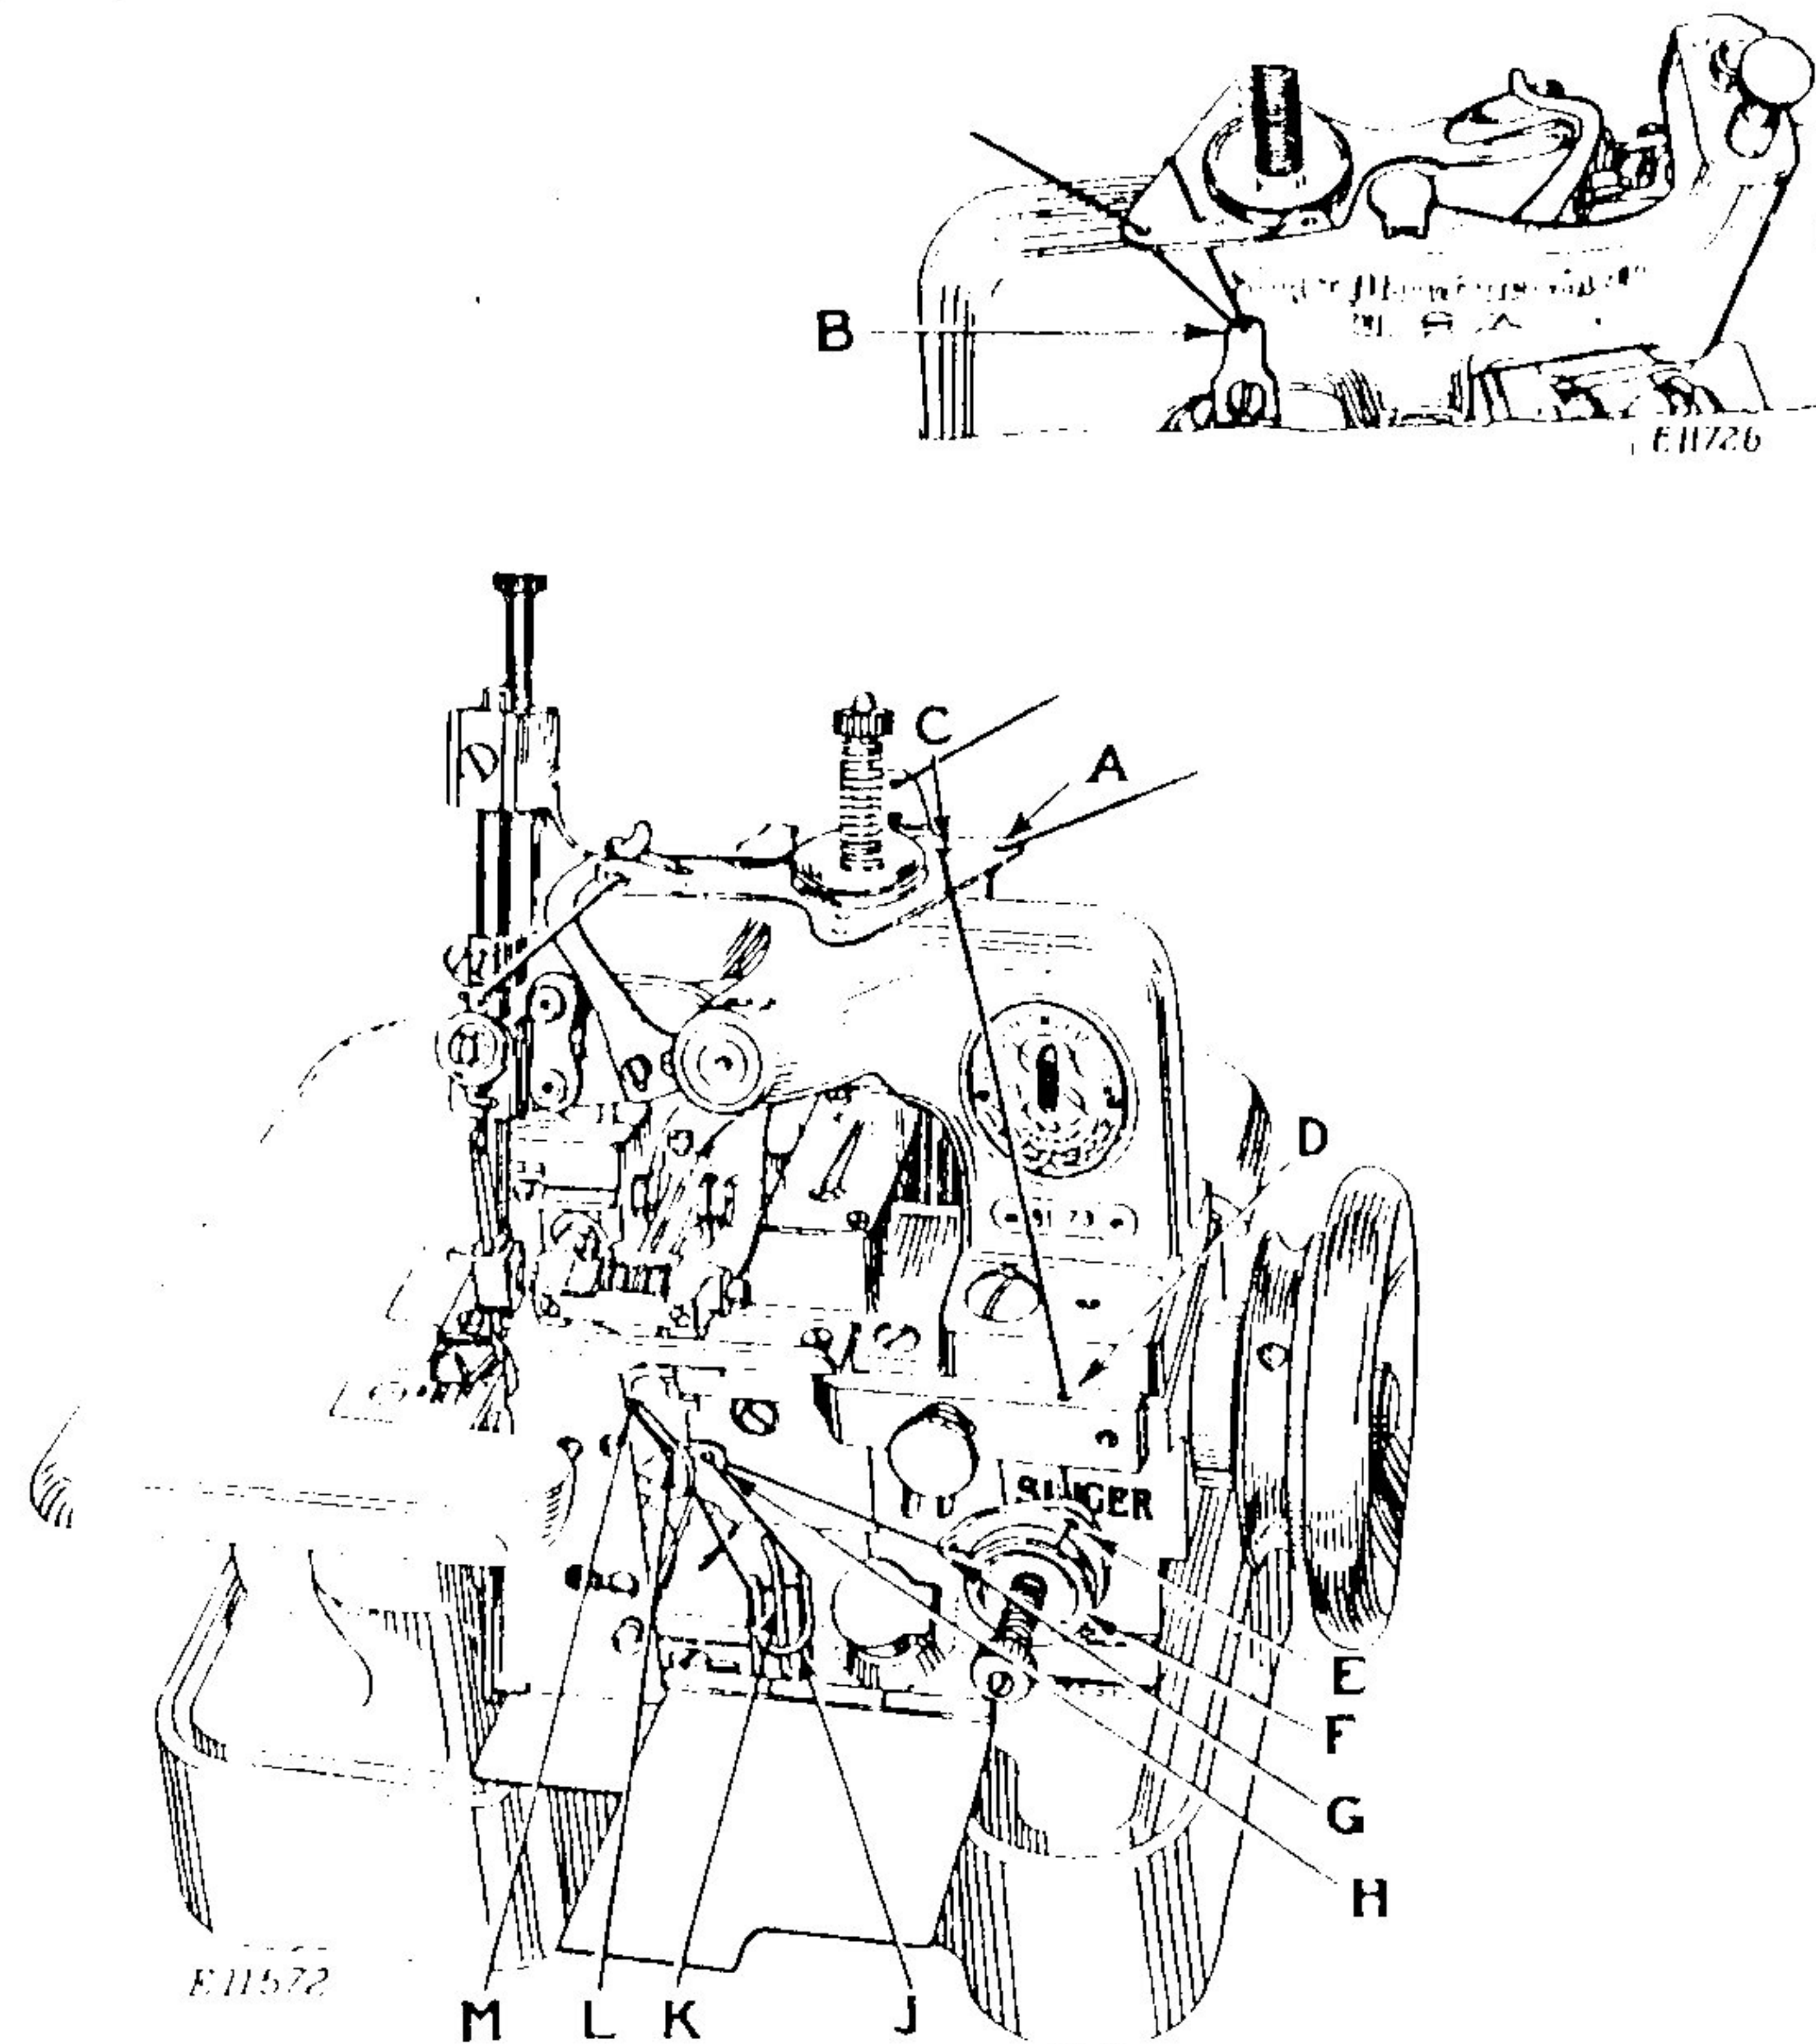

FIG. 11. THREADING THE RIGHT HAND LOOPER
Pass the thread from the unwinder, down through the hole (A, Fig. 11) in the tension bracket, from back to front through the
pull-off (B, Fig. 11) at the back of the machine, up through the hole (C, Fig. 11), down through the hole (D), through the hole (E), under between the tension discs (F), through the hole (G), from back to front through the take-up (H), down under the loop (I) of the staple then, with the forefinger, slide the thread up and over the prong (K), so that the thread rests in back of the prong, up and from back to front through the hole (L) in the heel of the right hand looper, and from front to back through the eye (M) of the right hand looper.
Note: The pull-off (B, Fig. 11) is only threaded when making the three-thread tight stitch.